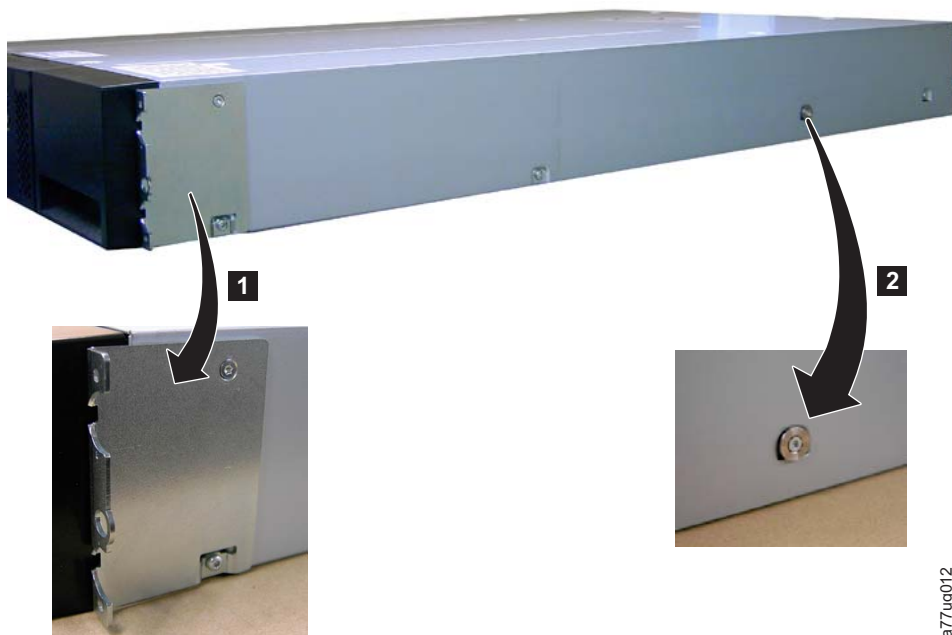

Figure 10-27. Mounting brackets and anchors for securing the library in a rack (one bracket and anchor on each side of the library)
1. Remove the mounting brackets (**1** in Figure 10-27) and anchors (**2**) from each side of the defective library and install them on the replacement library enclosure.